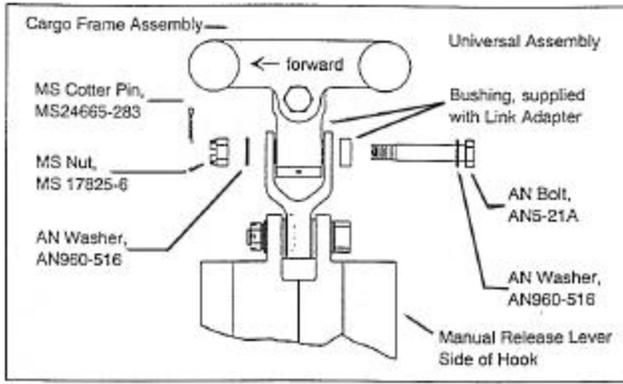

Figure 25-5. Cargo Hook Assembly to Cargo Frame Assemble Installation.
- Remove the cargo hook manual release cover and connect the manual release cable. Place the cable ball end fitting into the hook manual release fork fitting as illustrated in Figure 25-5. Adjust the cable to give .125 inch free play with the manual release handle in the cockpit in the full down position.